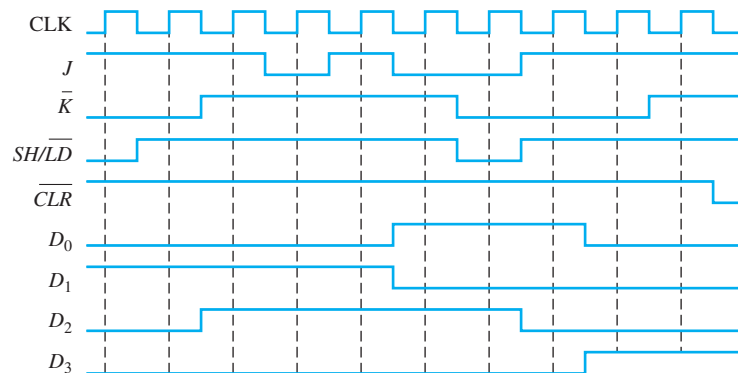

FIGURE 8-56
18. Determine all the Q output waveforms for a 74HC195 4-bit shift register when the inputs are as shown in Figure 8-56.